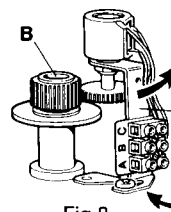

Fig.8
6. Taking care not to move potentiometer gear, rotate bracket 'A' anti-clockwise in towards drive gear 'B' until potentiometer gear is in good close mesh (fig.8). Hold assembly firmly in position and tighten bracket fixing screw.